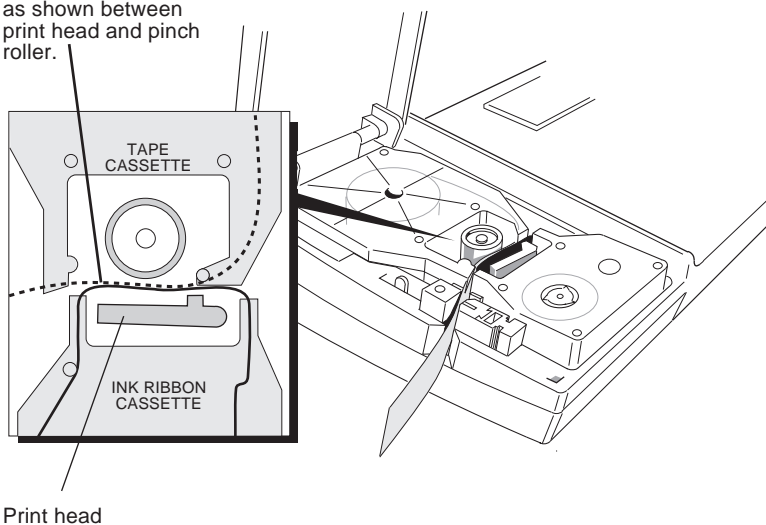

Fig. 2— Correct label tape and ink ribbon paths.
2. Open the cassette compartment lid and check that both the tape and ink ribbon cassettes are fitted correctly – see Fig. 2.